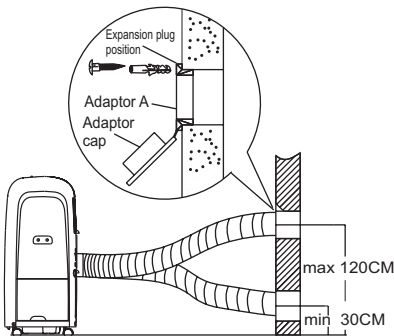

Fig.21
1. Prepare a hole in the wall. Install the wall Exhaust adaptor A onto the wall (outside) by using 4 expansion plugs and wooden screws, be sure to fix thoroughly. (See Fig.21)